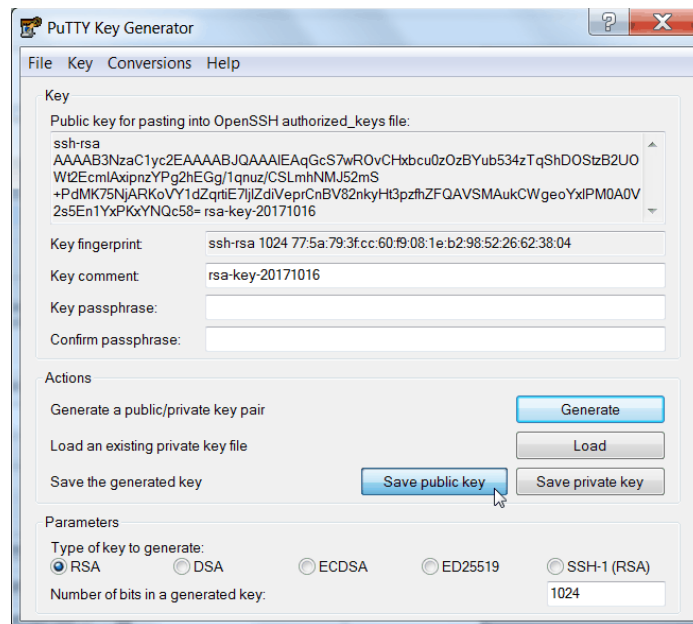

Figure A-3 Save public key
3. After the keys are generated, save them for later use. Click **Save public key** (Figure A-3).